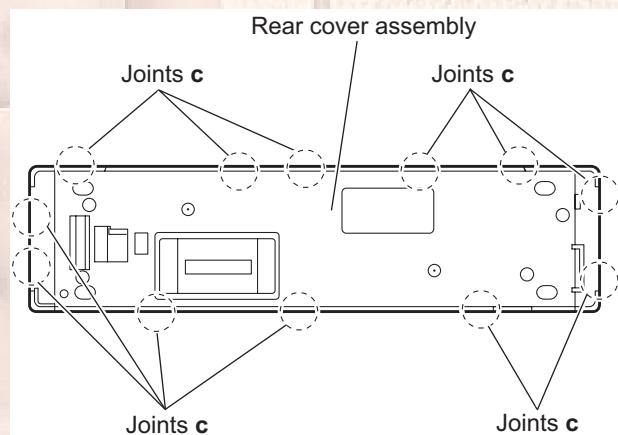

Fig.16
(2) Release the twelve joints **c** of the front panel assembly and remove the rear cover assembly. (See Fig.16)